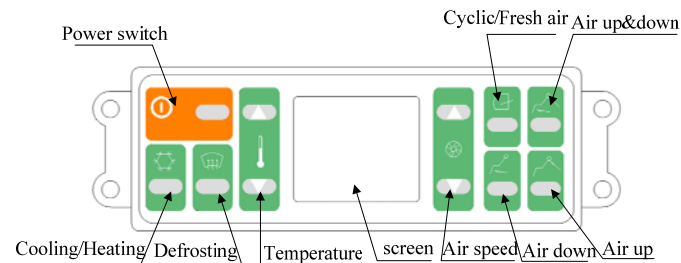

Figure 8
(1) Introduction of the panel(Refer to Figure 8)